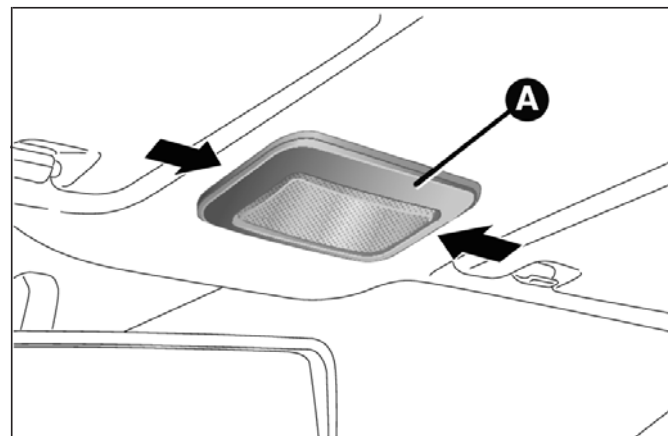
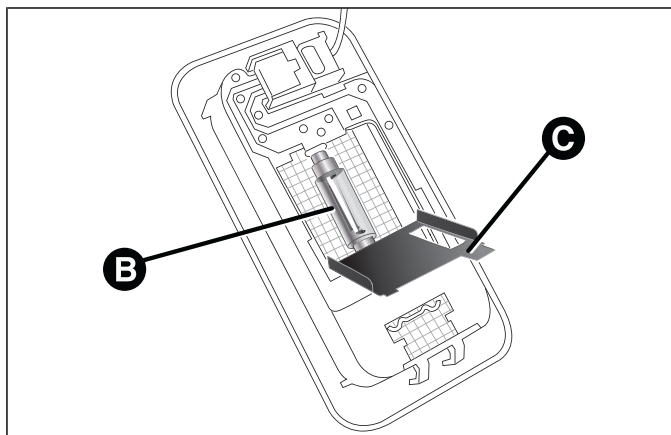

fig. 139
fig. 140
- ❑ operate in the point shown by the arrow and remove the roof light A fig. 139;
- ❑ open the flap C fig. 140 and replace the bulb B releasing it from the side contacts;
- ❑ Insert the new bulb B fig. 140 and make sure that it is correctly clamped between the contacts;
- ❑ reclose the flap C fig. 140 and fix the roof light A fig. 139 in its housing making sure that it is locked.